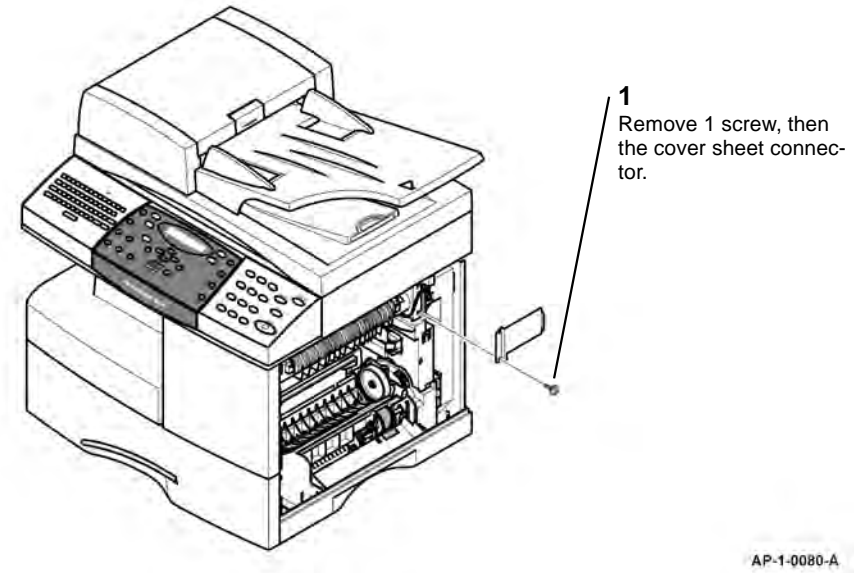
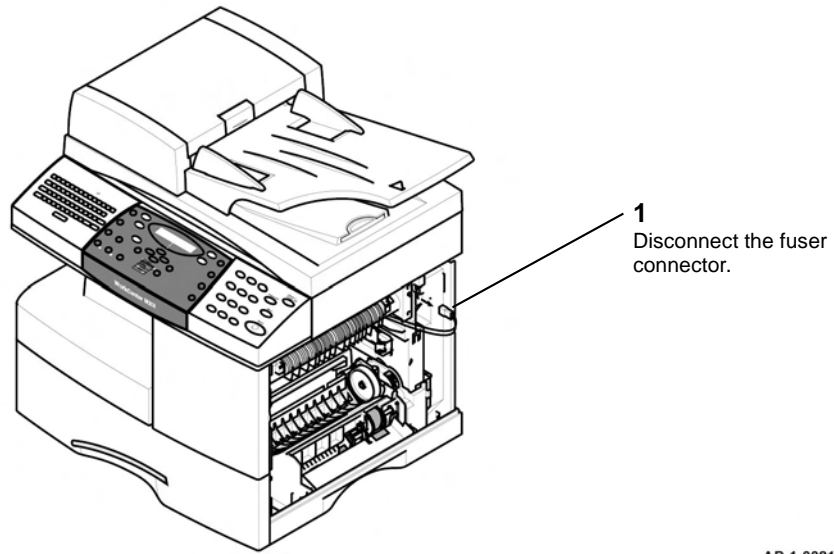

Figure 1 Cover sheet connector removal
Figure 2 Fuser connector
NOTE: The M20F and 4118 procedures are the same. The M20F is shown in Figure 1, Figure 2 and Figure 3.
NOTE: For clarity, the ELA HOU - side cover assembly is shown removed from the machine in Figure 1, Figure 2 and Figure 3.
2. Remove the cover sheet connector, Figure 1.
3. Disconnect the fuser connector, Figure 2.